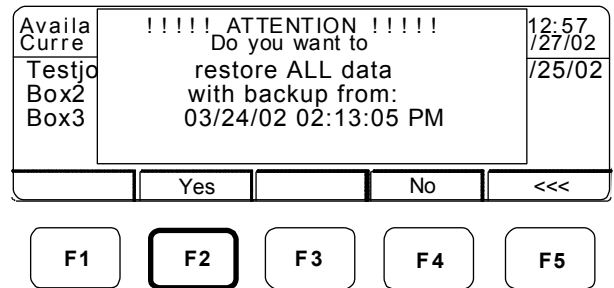

Figure 14-26.
2. Press F2 to start the Restore function. Two warning messages display to confirm your intentions (see Figures 14-26 and 14-27).
3. Make sure that everything can be overwritten. When the first message displays (Figure 14-26), press F2 to confirm that you want to restore ALL data with the backup.